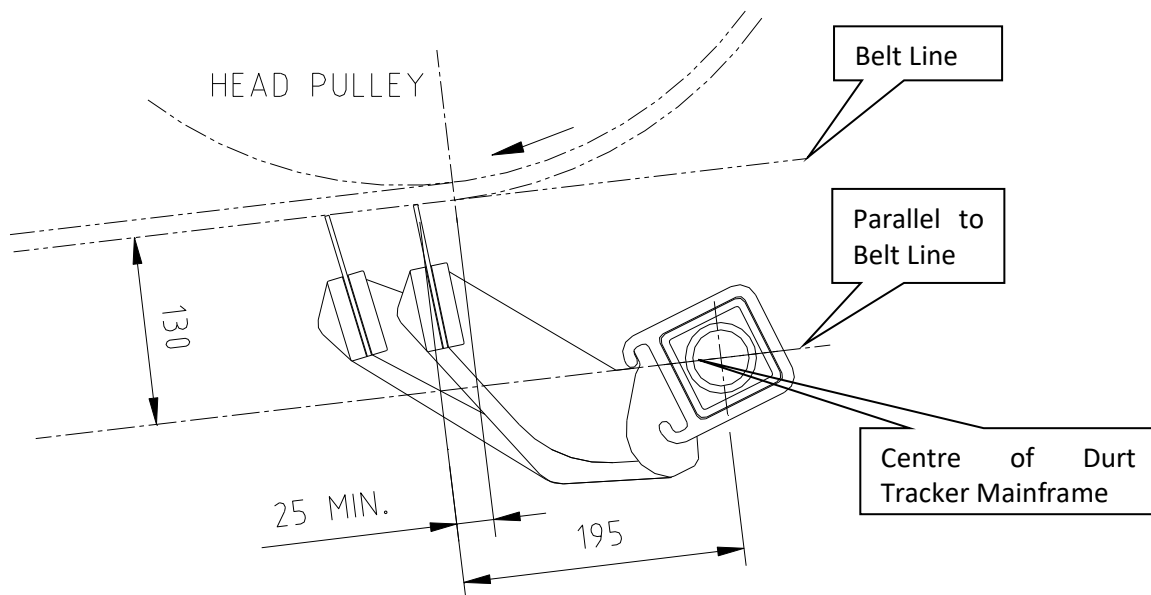

Figure 2 - Installation Position
Step 1 Refer to figure 2 below. On the outside of the chute, draw a line that represents the underside of the belt, which will be called the Belt Line. Extend this line past the head pulley at the same angle as the belt line.